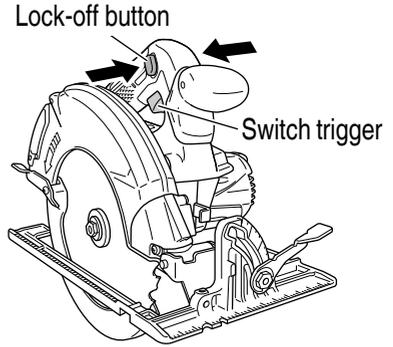

Fig. 24
3. Operation of switch (**Fig. 24**)